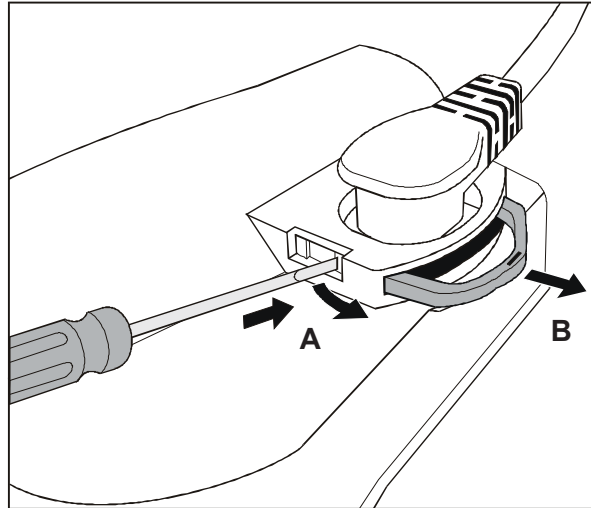

Figure 2: Actuator cable clip
To release the clip, use a small screwdriver to press in the retaining lugs on either side of the socket (Fig 2, Item A) and pull the clip out (B).